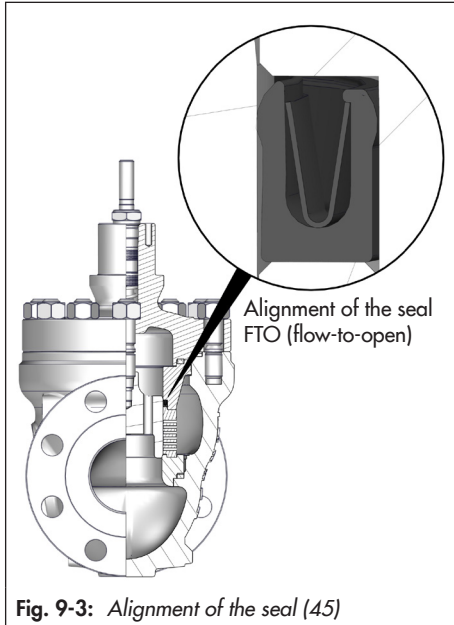
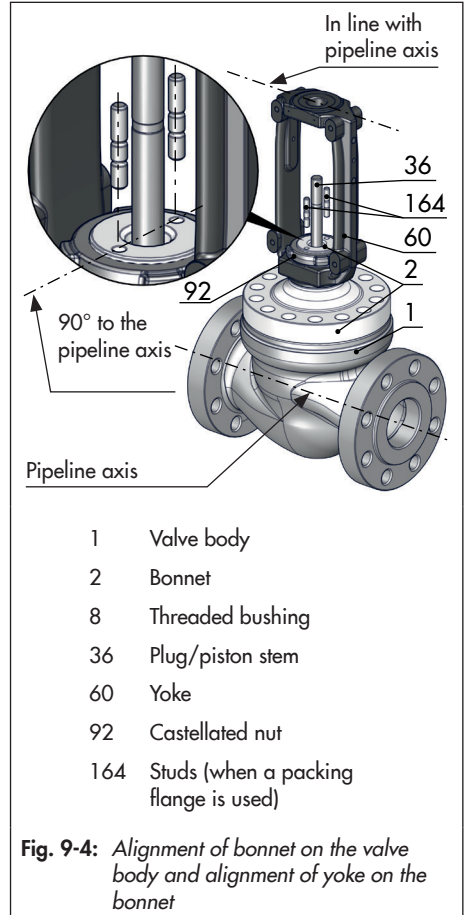

Fig. 9-3: Alignment of the seal (45)
Fig. 9-4: Alignment of bonnet on the valve body and alignment of yoke on the bonnet
6. Insert the seat retainer (124) (including pressed-in bushing (7)) upright over the plug stem (36) into the body (1) and center them on the seat (4). Use special tool for large nominal sizes. Align the openings of the seat retainer (124) symmetrically with the pipeline axis.
7. Place a new spiral gasket (126) on the seat retainer (124).
8. Insert a new spiral gasket (17) into the body (1).
9. Place the valve bonnet (2/21) including yoke (60) from the top over the plug stem (36) on the body (1). Observe the alignment (see Fig. 9-4). The two boreholes on the top of the bonnet must be at a right angle to the pipeline axis.
10. Press plug (5) firmly into the seat (4), while fastening down the valve bonnet (2/21) with the body nuts (14). Tighten the body nuts (14) gradually in a criss-cross pattern. Observe tightening torques.
7. Insert the support element (63) (including the pressed-in bushing (7)) upright over the plug stem (36) into the body (1) until it rests on the seating surface inside the body. Use special tool for large nominal sizes.
8. Place a new spiral gasket (126) on the support element (63).
9. Insert a new spiral gasket (17) into the body (1).
10. Place the valve bonnet (2/21) including yoke (60) from the top over the plug stem (36) on the body (1). Observe the alignment (see Fig. 9-4). The two boreholes on the top of the bonnet must be at a right angle to the pipeline axis.
11. Press the plug (5) firmly into the seat (4), while fastening down the valve bonnet (2/21) with the body nuts (14). Tighten the body nuts (14) gradually in a criss-cross pattern. Observe tightening torques.
3. Insert a new spiral gasket (127) into the body (1) in the seat bridge area.
4. Place the seat (4) on the spiral gasket (127) in the body (1).
5. Insert the cage (124) into the body (1) and position it on the seat (4), while aligning the cage (124) within the valve body to ensure that the largest opening faces toward the valve outlet.
6. Insert the piston (5) together with the piston stem (36) upright through the cage (124) into the valve body (1) and position on the seat (4).
7. Place a new seal (45) on the cylinder (63). Make sure the seal is properly aligned (see Fig. 9-3).
8. Place the cylinder (63) together with the seal (45) over the piston stem (36) on the cage (124).
9. Place a new spiral gasket (126) on the cylinder (63).
10. Insert a new spiral gasket (17) into the body (1).
11. Place the valve bonnet (2/21) including yoke (60) from the top over the piston stem (36) on the body (1). Observe the alignment (see Fig. 9-4). The two boreholes on the top of the bonnet must be at a right angle to the pipeline axis.
12. Press the piston (5) firmly into the seat (4), while fastening down the valve bonnet (2/21) with the body nuts (14). Tighten the body nuts (14) gradually in a crisscross pattern. Observe tightening torques.